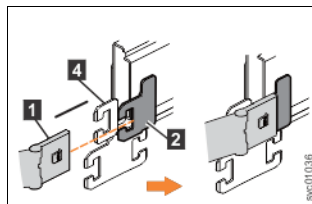

Figure 6-25 Installing the inner connector of the upper CMA to the inner member of the left support rail
- i. Install the inner connector of the upper CMA assembly **1** to the inner member of the left support rail **2** from the outer and inner support rails, as shown in Figure 6-25.